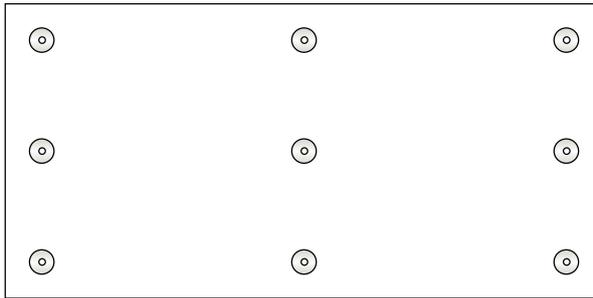

Figure 4 Fastener pattern (9 No. per board) Board size to 2.270 x 1.200 m – 3.3 fixings/m2
- Please refer to the recommended fixing patterns (see Figure 4).